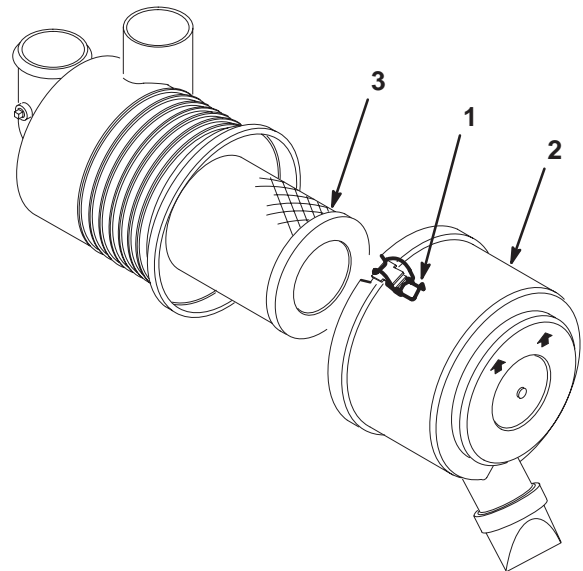

Figure 46
1. Release the latches securing the air cleaner cover to the air cleaner body (Fig. 46). Separate the cover from the body. Clean the inside of the air cleaner cover.
2. Gently slide the filter out of the air cleaner body (Fig. 46) to reduce the amount of dust dislodged. Avoid knocking the filter against the air cleaner body.